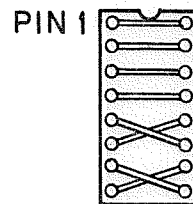

FIGURE 8-4
2. JP-B is a jumper plug which is used when handshaking with the external equipment is needed. (See Figure 8-4)